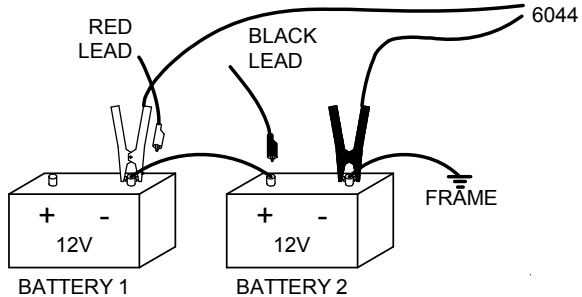

FIGURE 4
- 3) Battery 1 and the negative external (light gauge) lead to the positive terminal of Battery 2. (See figure 4)